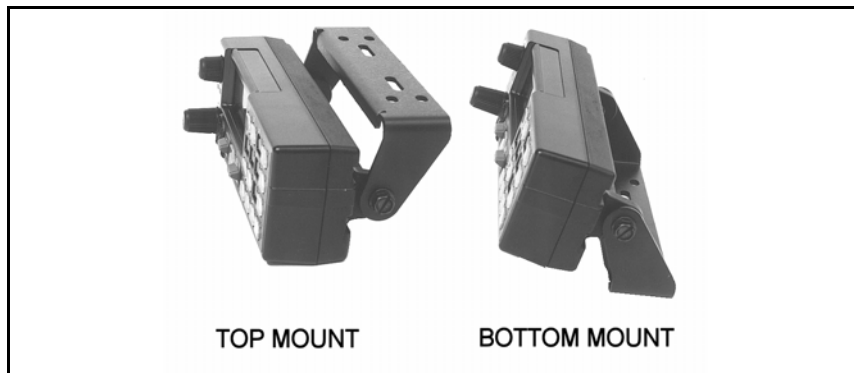
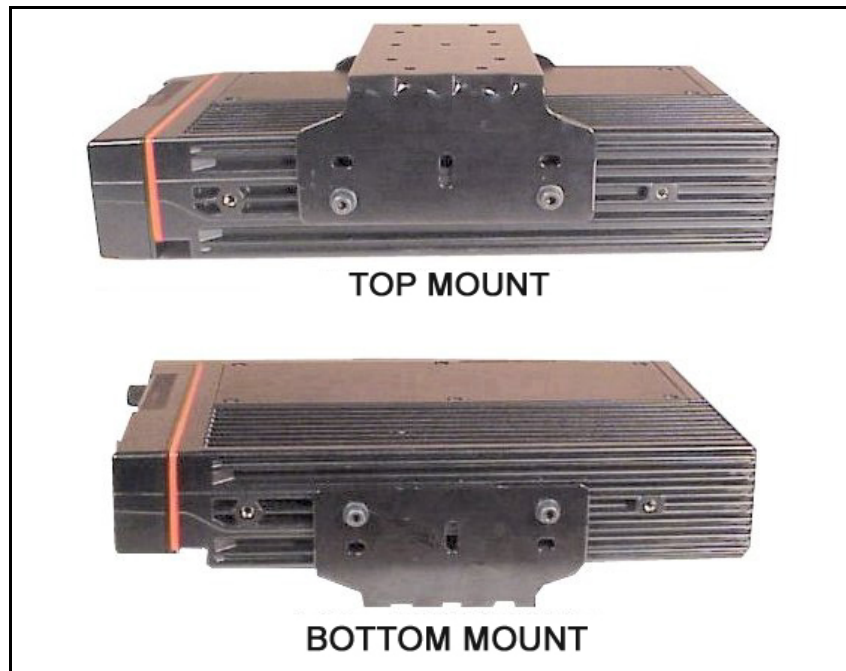
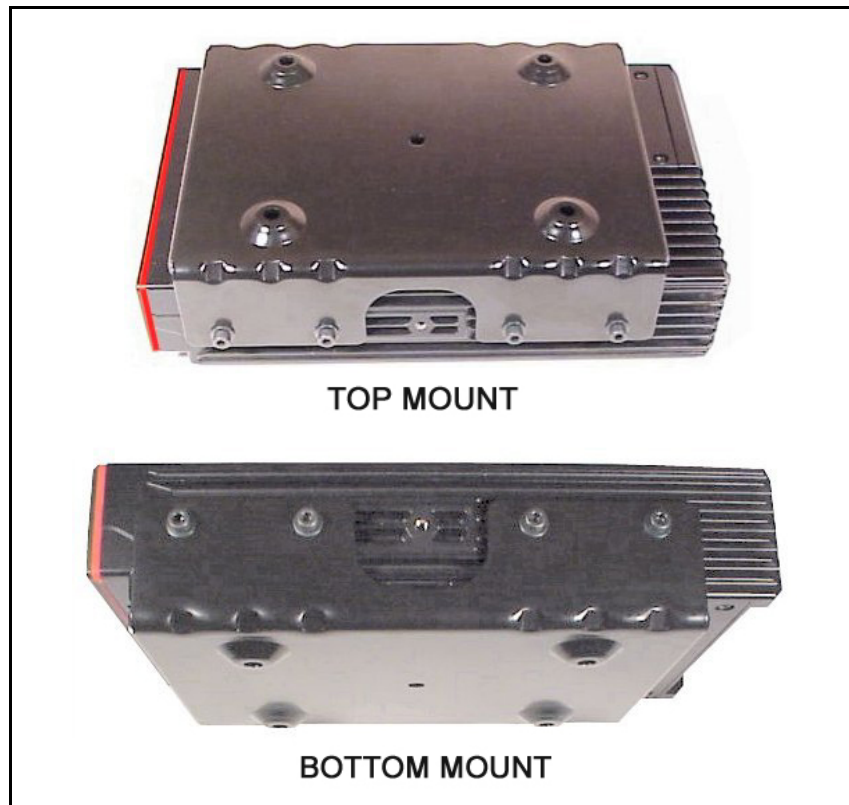

Figure 9-7: Control Unit Mounting Bracket Installation
Figure 9-14: Mounting Bracket Installation (110W VHF Shown)
Figure 9-15: Remote Mounting Bracket Installation (110W VHF Shown)
1. Using the bracket as a template, mark and drill the mounting holes. Be sure to leave enough room at the rear of the control unit for the cable connector and to allow the unit to swivel. Refer to Figure 9-7 for control unit mounting bracket installation.
Typically, the bracket shown in Figure 9-14 is used for Front Mount applications. The bracket can be mounted so that it is either above or below the radio for the user's convenience. The bracket pictured in Figure 9-7 can also be used for Remote Mount applications. The following instructions are for a Front Mount installation using the bracket shown in Figure 9-14.
The bracket shown in Figure 9-15 is used with the 110W VHF M7100^{IP} in Remote Mount configurations. (The 110W VHF radio is not available in Front Mount configurations.) The bracket shown in Figure 9-14 can be used for Remote Mount as well as Front Mount configurations for the 800 MHz, UHF-H, and UHF-L M7100^{IP} radios. The following instructions are for Remote Mount installations using the bracket shown in Figure 9-15.
3. Slide the radio unit into the bracket by aligning bracket guides with grooves on each side of radio (rear of radio should be inserted first). Slide radio back until screw holes in front of bracket align with screw holes in side of radio. See Figure 9-15.